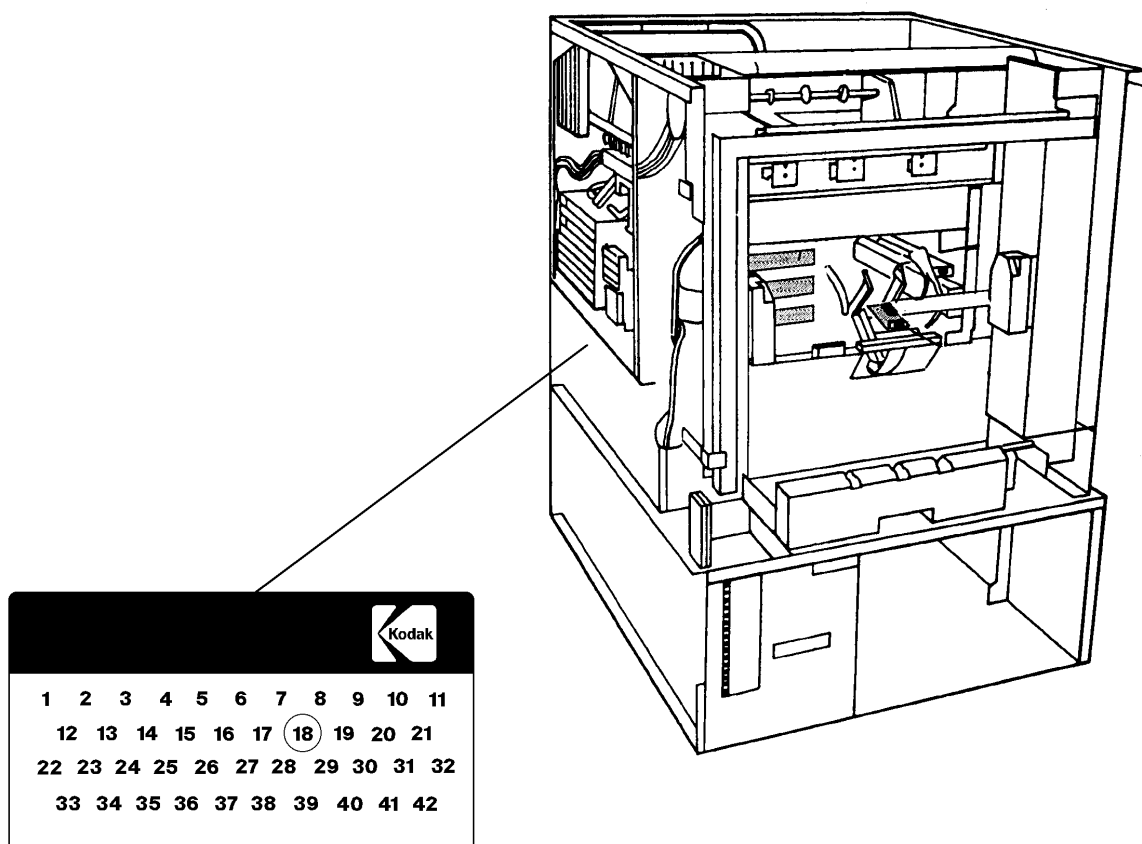

figure 11
- 40.** Circle No. 18 on the MODIFICATION LABEL. See figure 11.